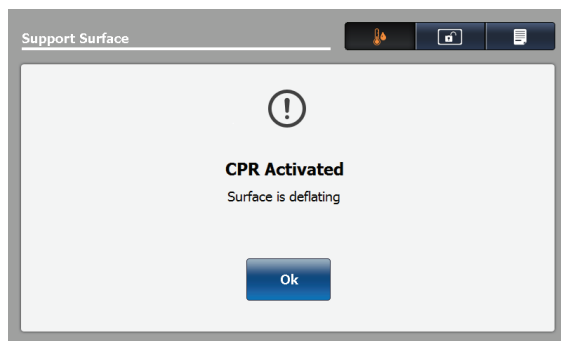

Figure 70: CPR Activated — Surface is deflating
- After you activate the CPR straps or CPR release pedal the screen displays (Figure 70 on page 76).